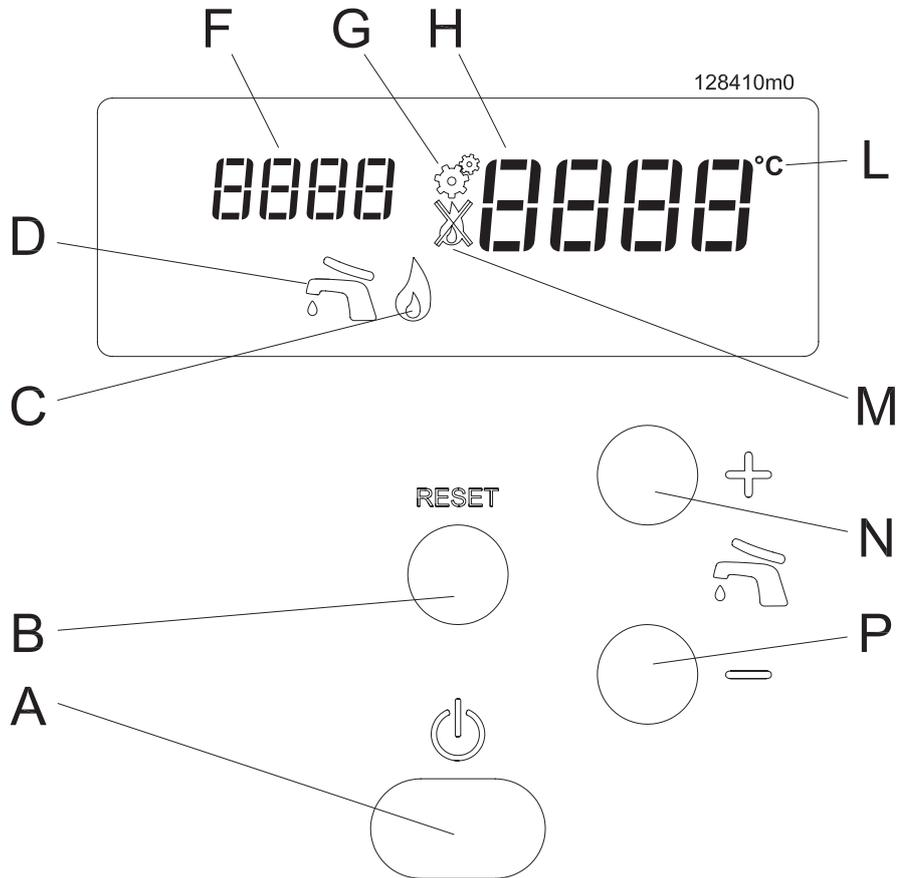

Figure 7-1 - Control panel
1. turn the power switch (item "A" in Figure 7-1) to on;
Key for figure 7-1
Entry into the "User menu" is highlighted by the visual display "F", in figure 7-1, which indicates parameters that can assume
operating on the  + and  keys. On pressing one of the two keys, the visual display "H" in figure 7-1 will start to flash and show the temperature that is being set. The range of adjustment for the temperature of the domestic hot water goes from 40°C to 60°C. For higher output temperatures, contact your technician to change the maximum output temperature factory setting, see section 11.
a.- press the RESET key to access the parameter (the visual display “H” in figure 7-1 will start to flash);